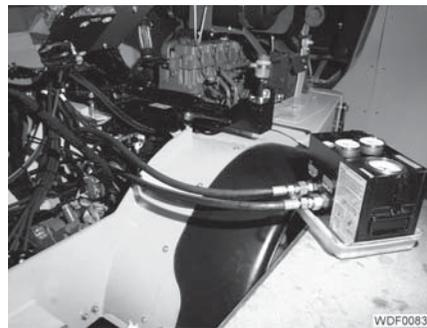

Fig. 34 Flow meter
- Install a flow meter in the hydraulic line between the gear pump and the pressure filter (Fig. 34).